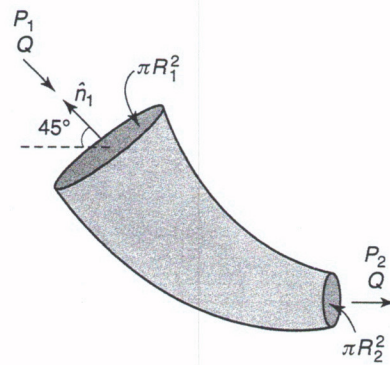

Figure 9.50
22. What is the direction and magnitude of the force needed to support the 45-degree contracting pipe bend shown in Figure 9.50? The water flow is steady and turbulent, the cross section of the inlet of the pipe bend is πR_1^2 , and the cross section of the outlet of the bend is πR_2^2 , where $R_2 < R_1$.